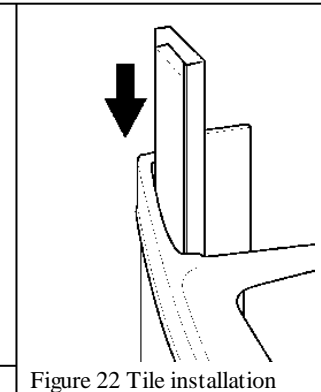

Figure 22 Tile installation
- Fit the tile cassettes by sliding them in the grooves at the back of the front casting and in front of the spring clips. See figure 22.